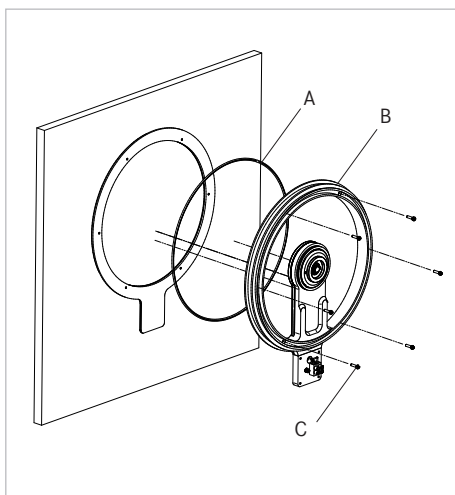

Figure 7: Mounting base unit
Insert the O-ring (A) into the corresponding groove on the underside of the base unit (B). Be careful not to overstretch the O-ring. Press the base unit lightly onto the mounting plate and align the base unit holes with those of the mounting plate (Figure 7).